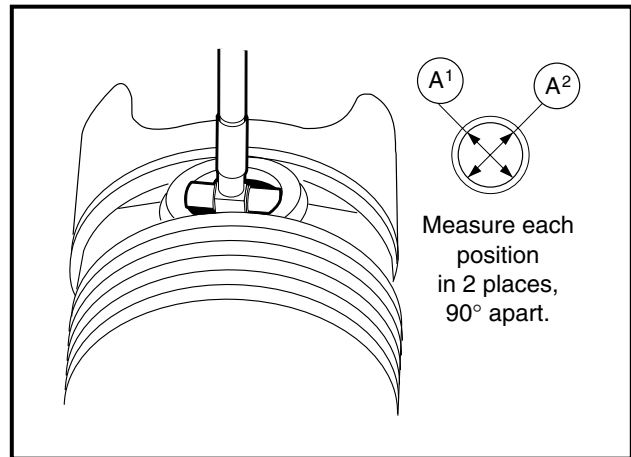

Figure 13-55 Measure Piston Pin Hole I.D.
3. Using an inside micrometer or telescoping gauge, measure the inside diameter of the piston pin hole in the piston at several points (**Figure 13-55, Page 13-29**).